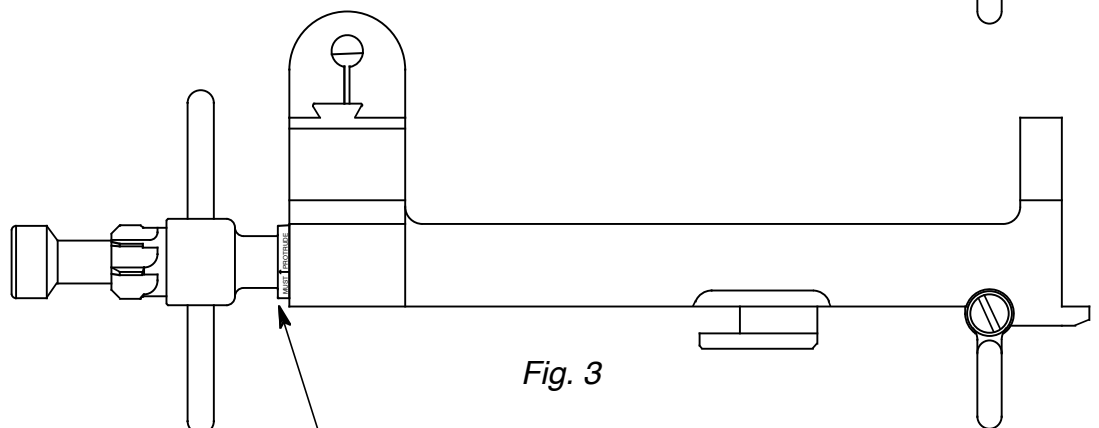

Fig. 3
4. Clean the carbon from the interior of the gas cylinder. Insert the gage end of the tool into the gas cylinder, (Fig 3) DO NOT ROTATE THE GAGE! With the cross pin aligned vertically, push lightly till the gage stops. Observe the "MUST PROTRUDE" marking, if the gage does not protrude the gas cylinder should be replaced.